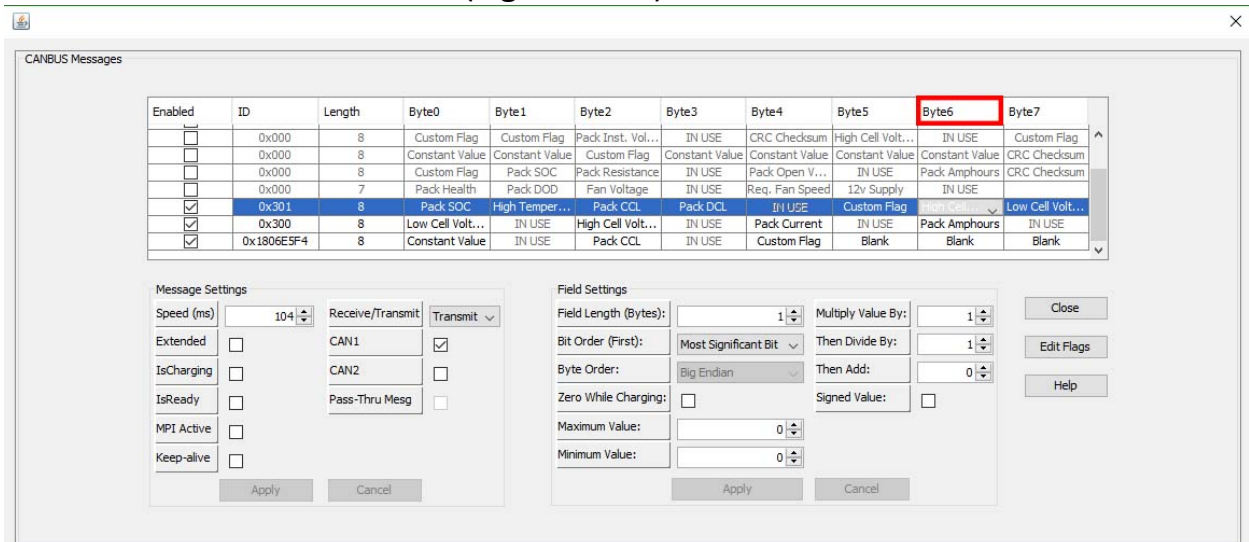

Fig. 35
20. The following is the settings for **HIGH CELL VOLTAGE ID**. The Byte used is Byte6 in message 0x301. In the dropdown menu for Byte6 make sure that **HIGH CELL VOLTAGE ID** is selected. (Fig. 35 & 36)